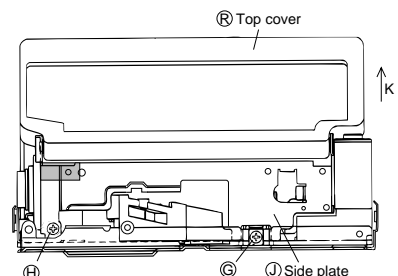

Fig. 4. (Fig. from direction A)
- 1) Lower the cassette controller assembly in the direction contrary to K in Fig. 4, and fit the screws (G) and (H) as shown in Fig. 4.